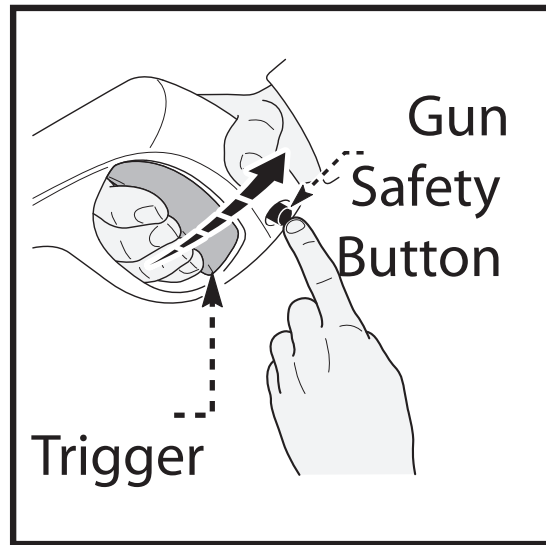

Fig. 19
- Release the safety lock button on the spray gun by pressing the safety lock button from right to left (**Fig. 19**). While pointing the spray gun in a safe direction, squeeze the trigger on the spray gun until there is a steady stream of water, letting the water and air out of the hose.
- Turn the power switch to the 'ON' (I) position. The unit will turn on for 1 - 2 seconds and shut off, this is a normal function of the (TSS) auto start feature. Squeeze the spray gun trigger to begin pressure washing.